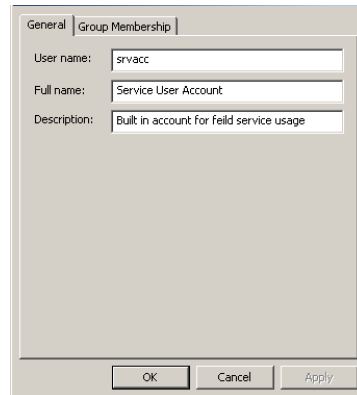

Figure 2-27 MGMTSERVER\srvacc Properties Dialog Box (General Tab)
1. At the *Users and Passwords* dialog box, highlight the user (**srvacc**, for example) at the *Users for this computer* field and click *Properties*. The *MGMTSERVER\srvacc Properties* dialog box displays with the *General* tab selected (Figure 2-27).